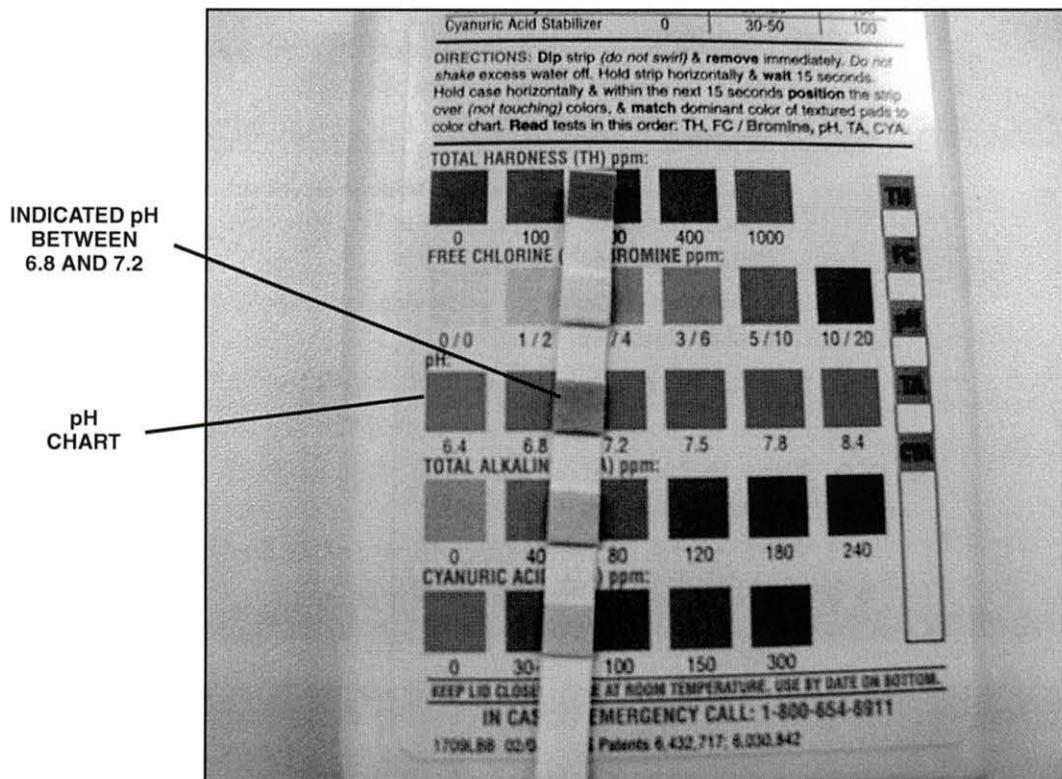

Figure 12. Compare Test Strip to Color Chart
- D. Compare the colors on the test strip with the color chart provided with the test strips, as figure 12 shows, and determine the indicated pH.